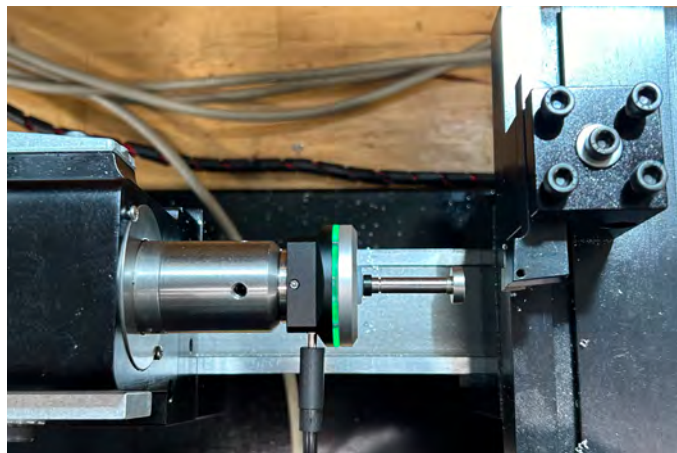

FIGURE 12
- A. Jog the tool so the cutting tip is approximately at the center of the stylus in the X-axis. Then Jog to a clearance point in the Z-axis (about 1/2" in front of the stylus) (see Figure 12).